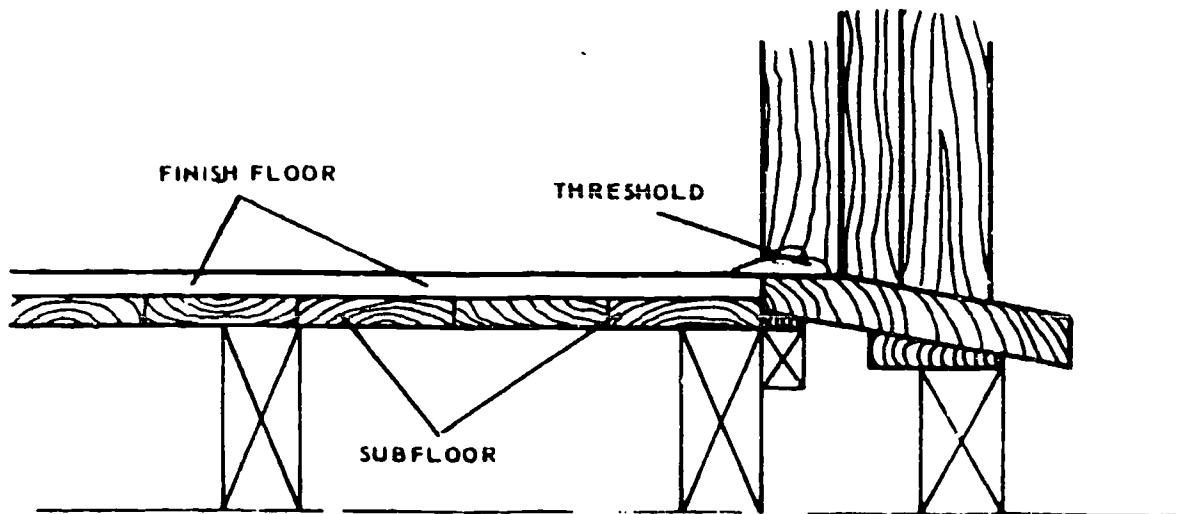

Figure 23. Adjusting a Door Sill
- Level the sill by placing wedge-shaped blocks (cypress wood shingles, if available) under the side being raised. Important: The top of the sill must be level with the finished floor when it is installed, as seen Figure 23.